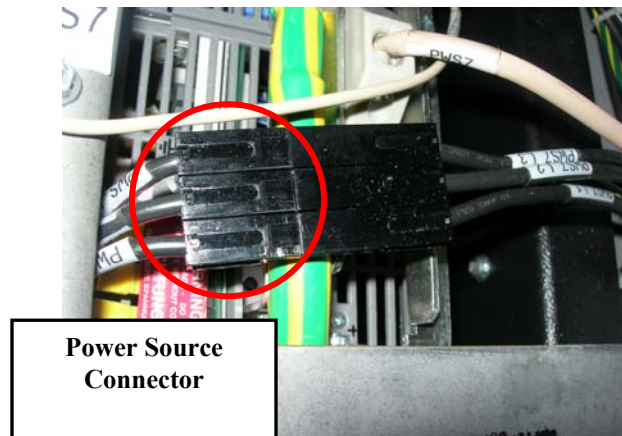

Figure 25 Location of the Power Source Connector
7. Disconnect the three (3) black power source connectors. (Refer to Figure 25.)